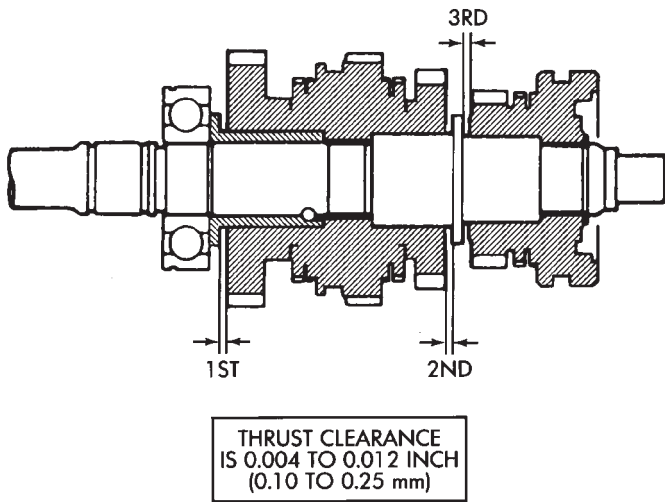

Fig. 28 Checking Output Shaft Gear Thrust Clearance
(10) Remove rear bearing from intermediate plate.
(11) Remove input shaft and shaft roller bearings from output shaft.
(12) Measure thrust clearance of output shaft gears (Fig. 28). Clearance should be 0.10 - 0.25 mm (0.004 - 0.010 in.).